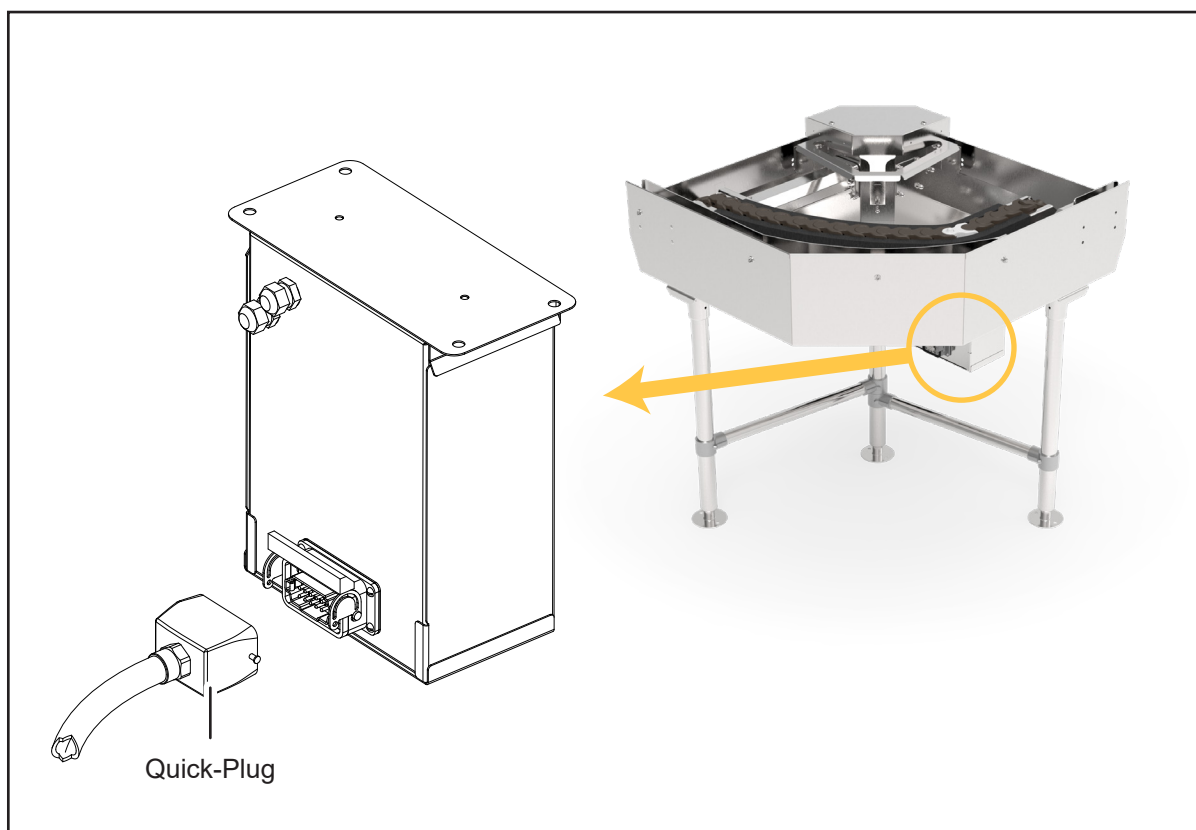

Fig. 5 - PRO-90B Control Cabinet
1. Connect wire whip from dishwasher to the loader/unloader control cabinet. The whip is stowed on the unload end of dishwasher. The loader/unloader control cabinet is located under the loader/unloader table, (see Fig. 5).
2. Connect dishwasher and loader/unloader via the Quick-Plug on the rear of the loader/unloader cabinet (see Fig. 5).